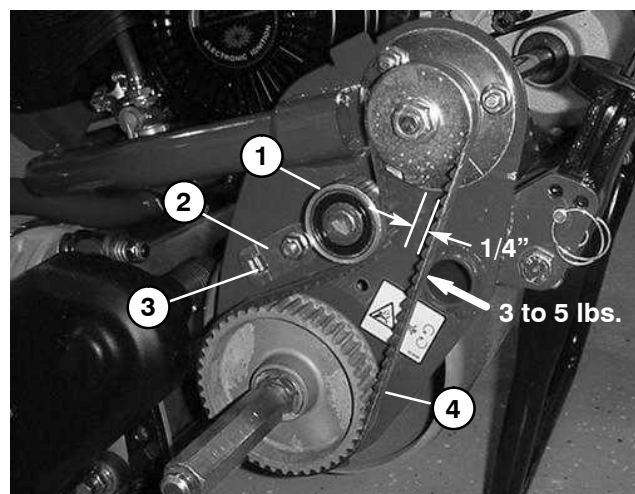

Figure 6
B. Check belt tension by depressing belt at mid-span between the pulleys with 3 to 5 lbs (13 to 22 N) of force (Fig. 6). The belt should deflect 1/4 inch (6 mm).
B. With a 3/8 inch drive torque wrench, pivot the idler pulley against the backside of the belt from 35 to 40 in-lb (40 to 46 kg-cm). **Do not over tension belt.** Hold idler assembly with the torque wrench and tighten idler bracket cap screw to lock adjustment (Fig. 6).